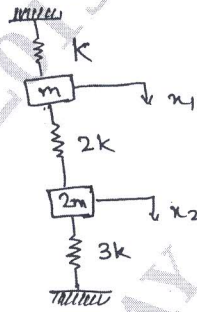

Fig.Q6(b)
b. For the system shown in Fig.Q6(b):